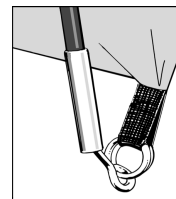

Figure 1.
- Loosen the tension adjusters at the base of the flysheet and insert the steel legs into the curved roof pole section, and locate the ring and pin into the bottom of the steel legs. (See figure 1) Clip the flysheet to the steel pole on each side.
1. Locate one end of each pole onto the corresponding metal pin. The metal pin inserts into the hollow metal ferrule on the end of each pole. (See Figure 1). Push the pole into a curve from the opposite side, one at a time, and locate all pole ends onto the metal pins.